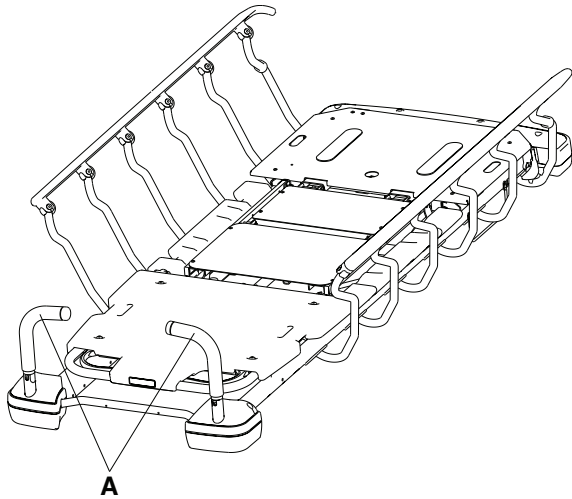

Figure 9 – Positioning the head end push handles
1. Pivot the handles (A) up from the head end of the product (Figure 9).